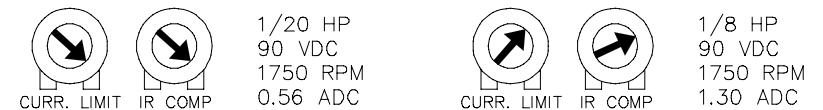

Figure 3. CURR. LIMIT and IR COMP Settings
**IR COMP** The IR COMP trimpot sets the voltage gain needed to maintain the set speed of a motor under load. If the motor does not maintain set speed as the load changes, gradually rotate the IR COMP trimpot CW. If the motor oscillates (overcompensation), the IR COMP trimpot may be set too high. Turn the IR COMP trimpot CCW to stabilize the motor. See Figure 3 for typical IR COMP settings.
**CURR. LIMIT** The CURR. LIMIT trimpot sets the drive's maximum armature current limit. See Figure 3 for typical CURR. LIMIT settings, or calibrate as follows: